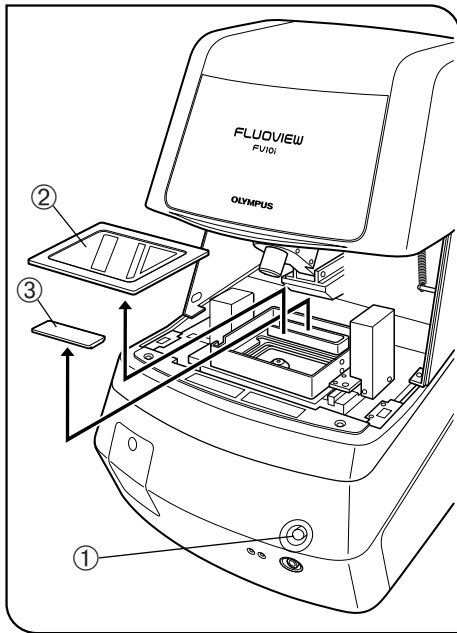

Fig. 4
**Water Injection in the Incubator (Fig. 4)**